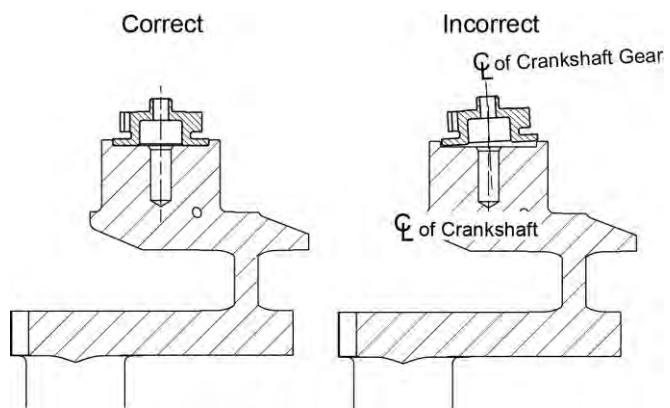

Figure 42
CAUTION: FOR CORRECT ENGINE OPERATION, THE CRANKSHAFT GEAR MUST BE INSTALLED CORRECTLY WITH NO GAP BETWEEN THE MATING SURFACES OF THE COUNTERBORED-END OF THE CRANKSHAFT AND THE CRANKSHAFT GEAR PILOT FLANGE (FIGURE 42).
- (10) With a hammer and brass drift, tap lightly around the pilot flange of the crankshaft gear and listen for sharp solid sounds from the hammer blows that would indicate that the crankshaft gear is seated against the crankshaft.
(11) Make sure the crankshaft gear seats firmly and perpendicularly flat and straight (not at a slanted angle) against the crankshaft as shown in Figure 42: